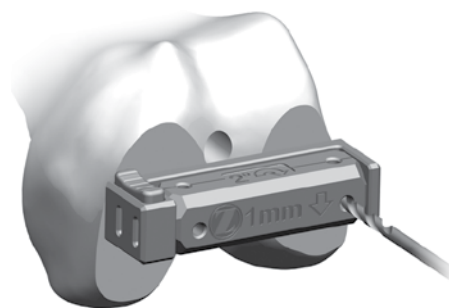

Fig. 118
- After making sure the appropriate face is locked in place, drill through the holes that have been selected using a 3.2mm drill (**Fig. 118**).